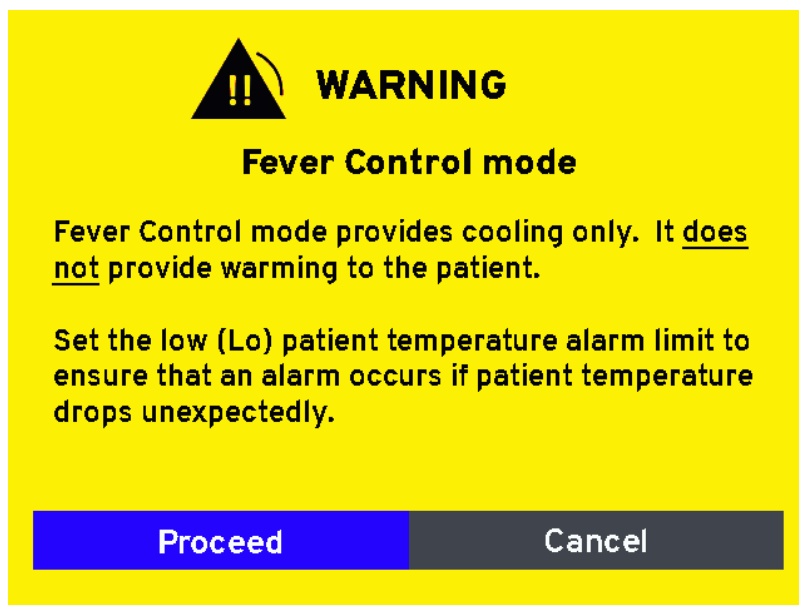

Figure 4.8. Fever Control mode confirmation message
4. If you selected Fever Control mode, you are asked to confirm your selection with the reminder that Fever Control mode only cools and does not warm (Figure 4.8).